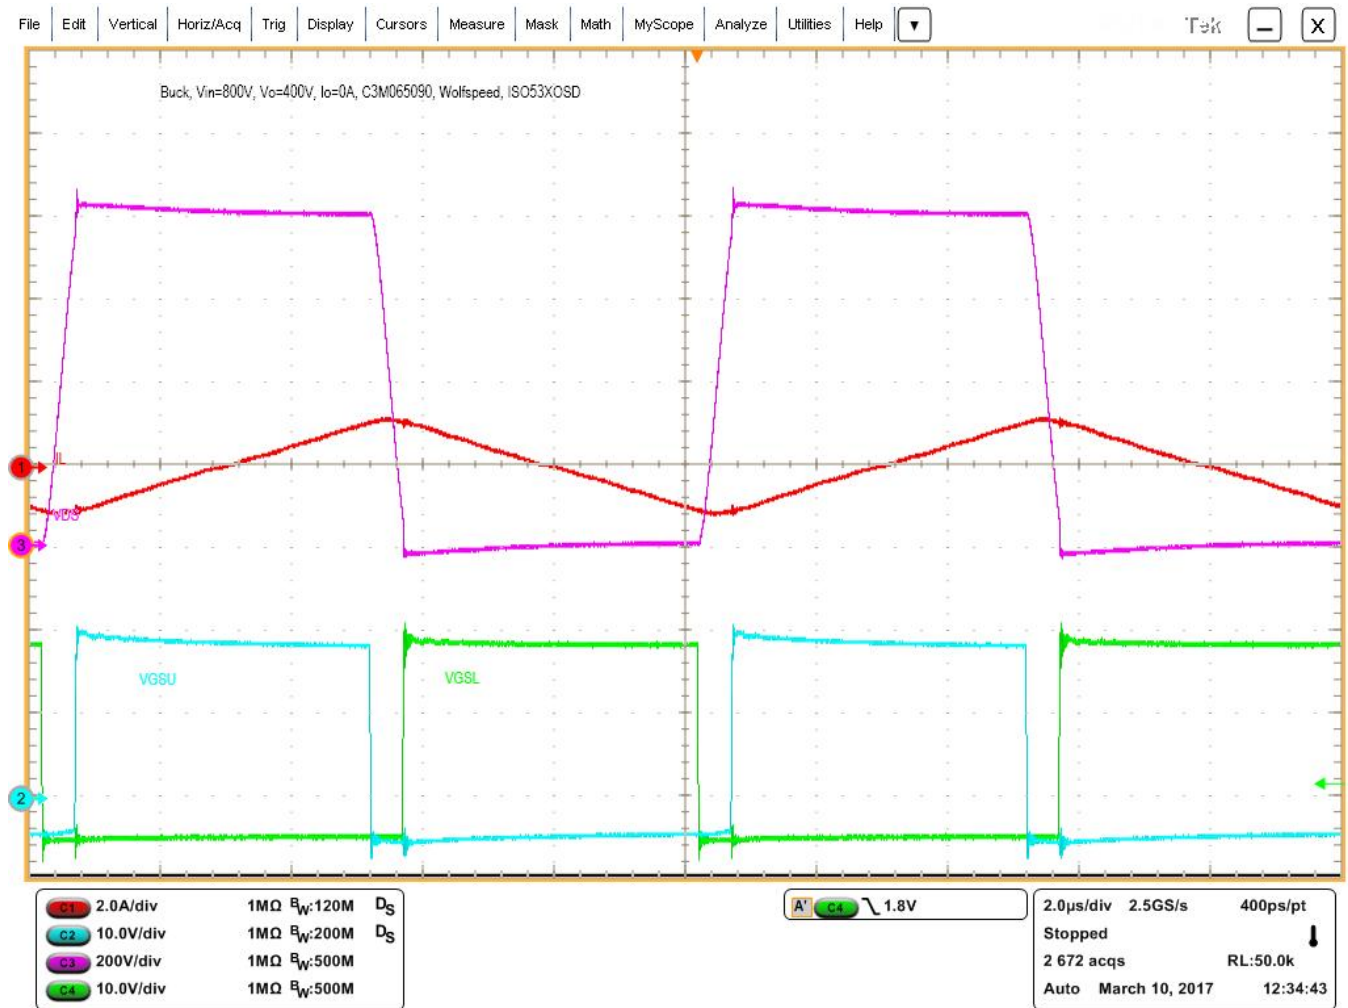
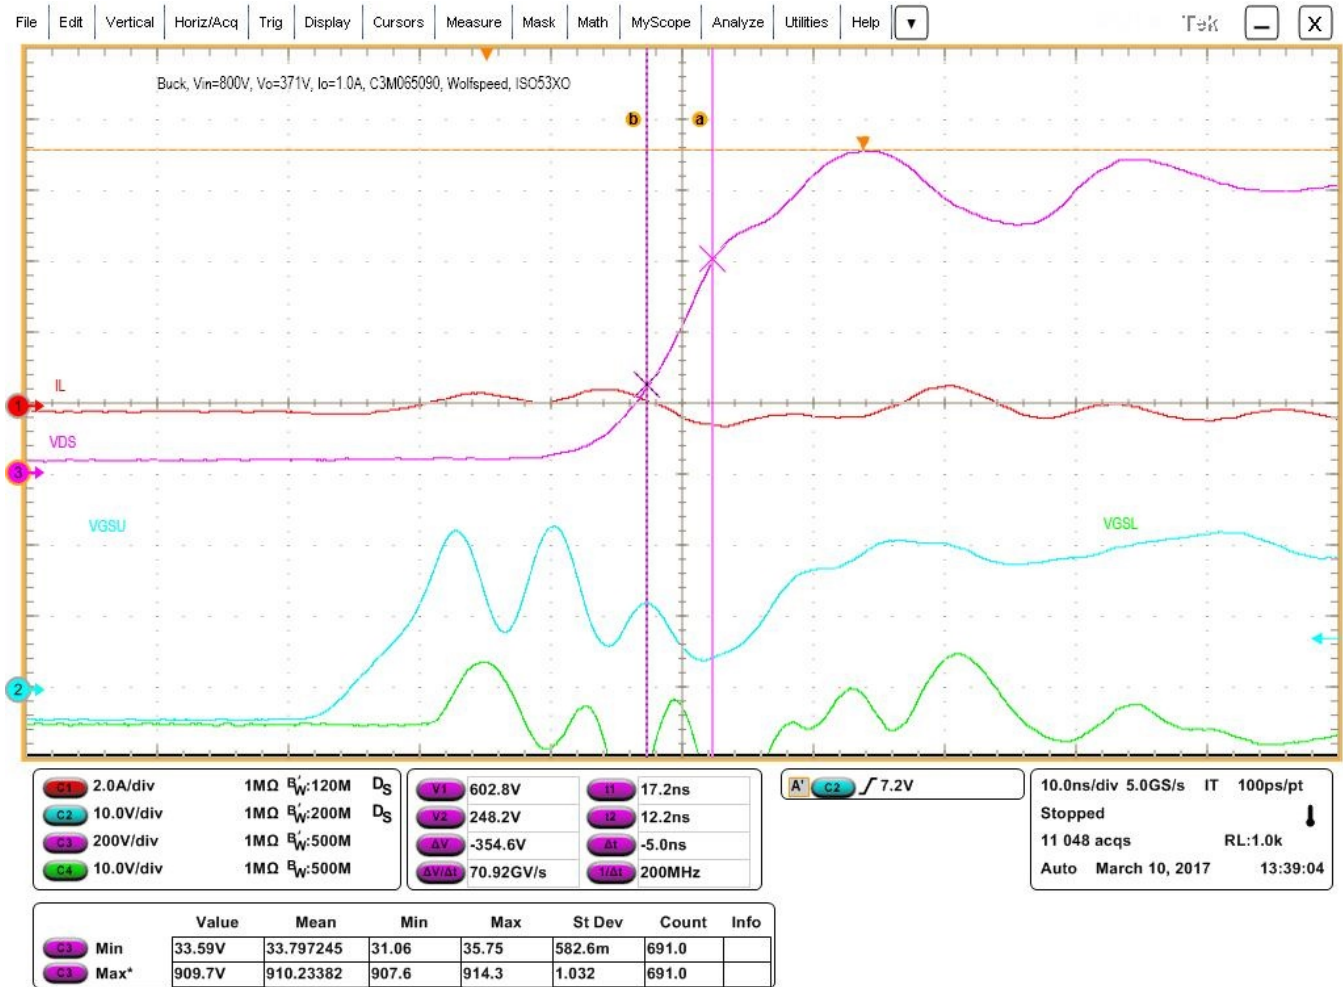
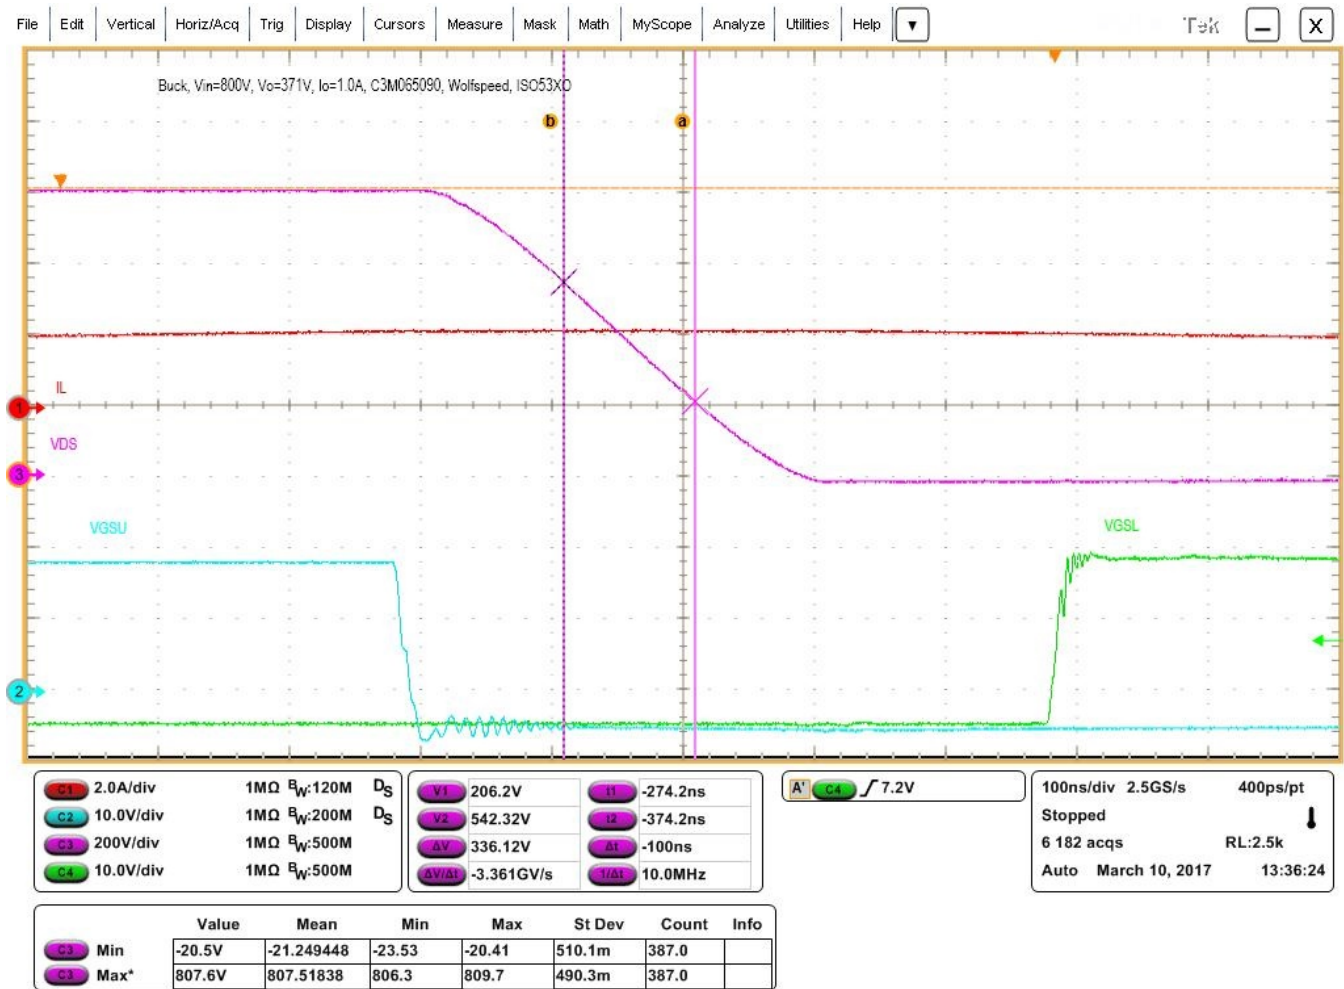

Figure 9. Inductor Current (Red), Drain-Source (Pink) and Gate-Source Drive Voltages (Blue and Green) at 800-V Input, 0-A Output
Figure 13. Expanded Hard, 71 V per ns Switching Waveforms During Vds Rise
Figure 14. Expanded Soft, 3.4 V per ns Switching Waveforms During Vds Fall
4. Enable the high voltage power supply and gradually increase in voltage from 0 V to 800 V. The waveforms should look similar to Figure 9.
7. Gradually increase the load current up to 1.0 A. The waveforms should look similar to Figure 9. Explore the rising and falling edges of the phase node (V_{ds} of lower FET) by changing horizontal scale to 10 ns/div for rising edge and 100 ns/div. for falling edge as it is shown in Figure 13 and Figure 14.